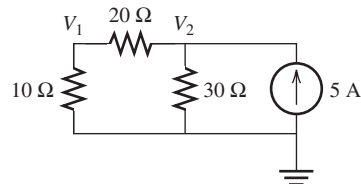

FIGURE P3.35 Circuit for Problem 3.35.
3.35 (B)* Find V_1 and V_2 in Figure P3.35.